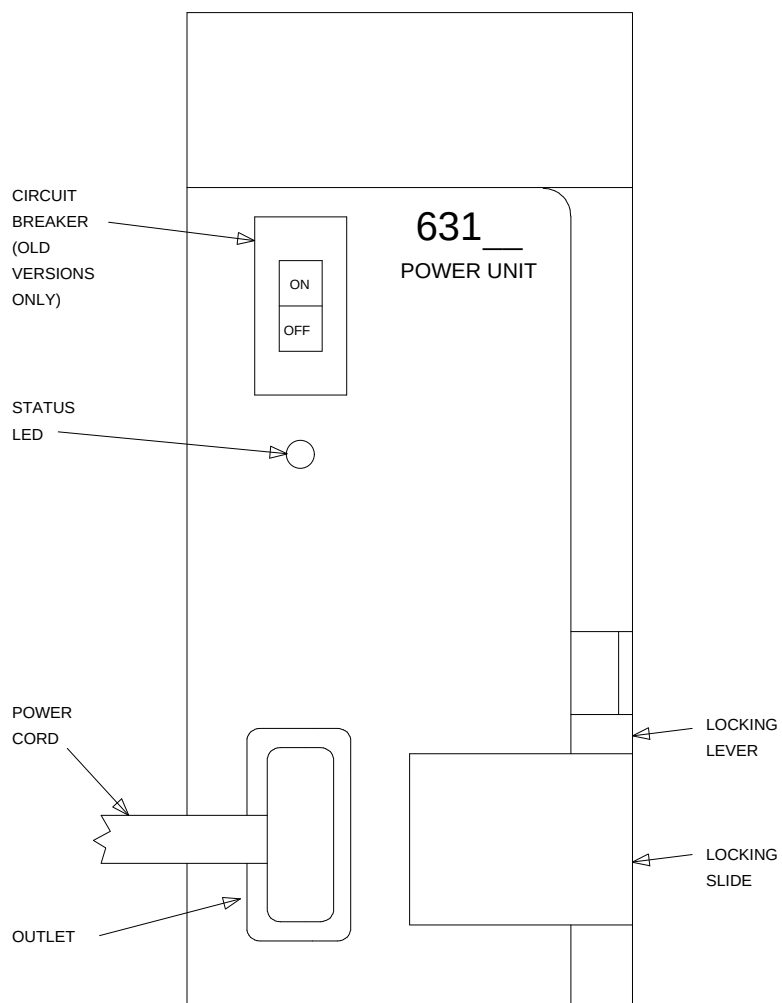

Figure 12-31. 631-Type Power Unit
14. Connect the power cords to the power units. The power cords are the white cables equipped with plugs that are run through the slots in the front of each carrier (see Figure 12-31).